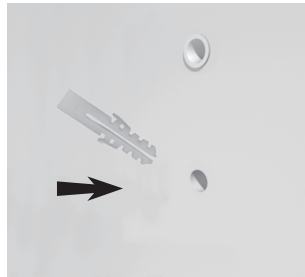

Figure 2 – Insert concrete anchors
3. Fully insert concrete anchors (P). Tap in with hammer if required. See Figure 2.